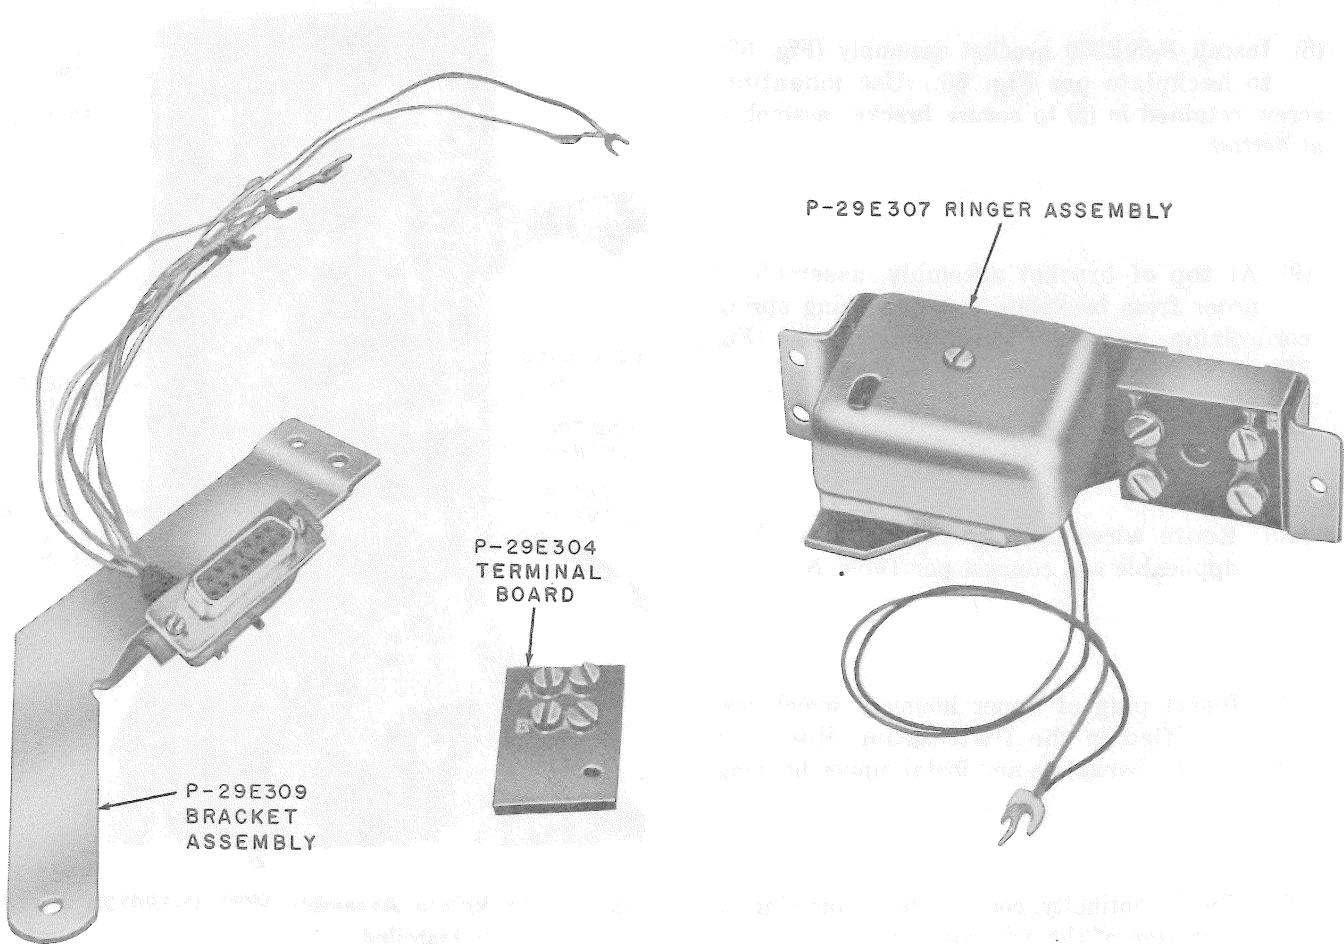
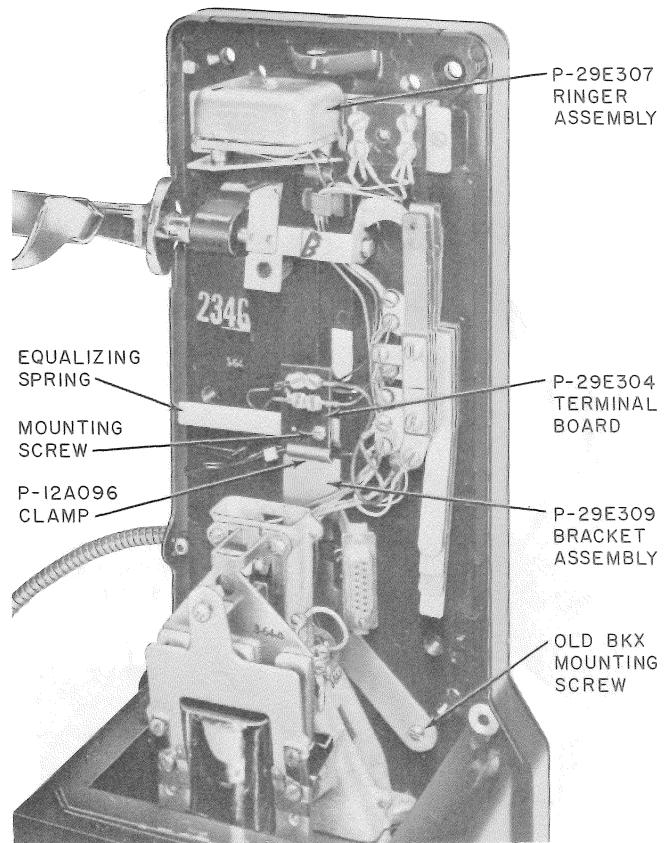

Fig. 65—D-180120 Kit For Modification of Backplate Assembly
Fig. 66—Backplate Assembly With D-180120 Kit of Parts Installed
7.02 The D-180120 kit to be installed in the field consists of P-29E307 ringer assembly, P-29E309 bracket assembly, and P-29E304 terminal board (Fig. 65).
- (1) Disconnect wires per Table M.
- (2) Remove subscriber set.
- (3) Disconnect (BK) wire from between BBX of switchhook and BB of transfer contacts.
- (4) Remove and discard terminal plate assembly at top of backplate assembly. Retain hardware.
- (5) Install P-29E307 ringer assembly (Fig. 65) in same position as terminal plate assembly was located using the retained hardware (Fig. 66).
- (6) Remove and discard BKX transfer spring at right of coin relay. Retain mounting screw.
- (7) Remove and retain equalizing spring, cord clamp, and associated fastener.
(8) Install P-29E309 bracket assembly (Fig. 65) to backplate per Fig. 66. Use mounting screw retained in (5) to secure bracket assembly at bottom.
(9) At top of bracket assembly, assemble in order from backplate out, equalizing spring, cord clamp, and P-29E304 terminal board (Fig. 65). Secure with hardware retained in (6) (see Fig. 66).
(10) Route wires through cord guides where applicable and connect per Table N.
(11) Insert plug of upper housing, which was modified in the Distributing House, in connector on backplate and install upper housing.
(12) Check continuity, coin handling, and ringing operation of the coin collector.